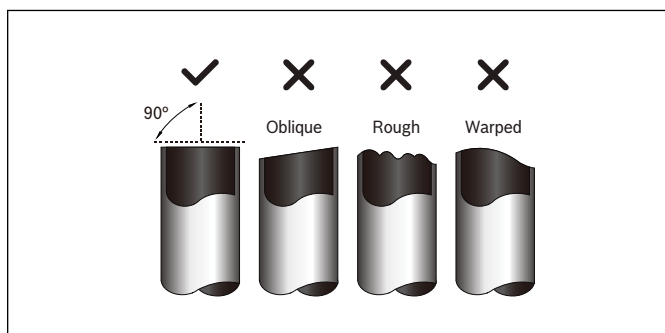

Figure 26
3. Make sure that the pipe is cut at a perfect 90° angle. Refer to Fig. 26 for cut examples.